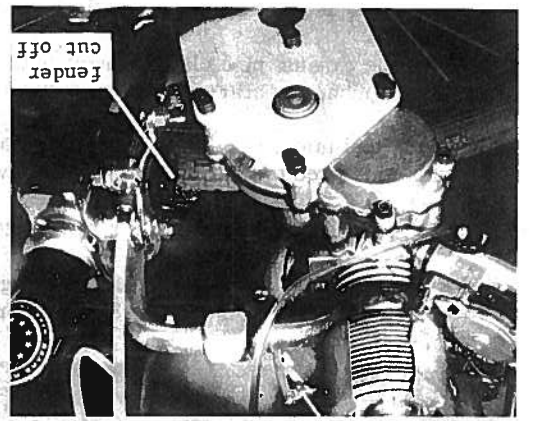

FIG. 3
- IMPORTANT:** Check tire pressure, inflate to at least 40 pounds. If the recommended pressure is greater, inflate to at least 40 area of the fender to be removed (figure 3).
- b. Fasten exhaust pipe to exhaust collector on engine (figure 3, 7).